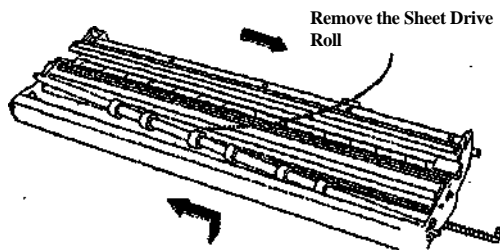

Figure 2. Removing the Sheet Drive Roll
7. (Figure 2): Remove the Sheet Drive Roll.